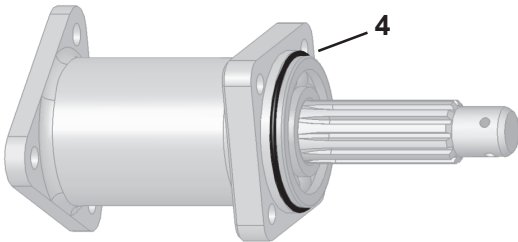

Fig. 3
- Install the O-ring (Pos:4, Fig.1) on the wheel bearing as shown in the picture Fig.3.